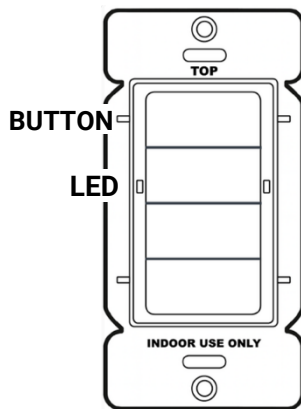

Figure 1 – Buttons and LED
2. Note the "TOP" of the switch during installation. Button 1 is the topmost button and should be mounted in this orientation as seen in Figure 1.